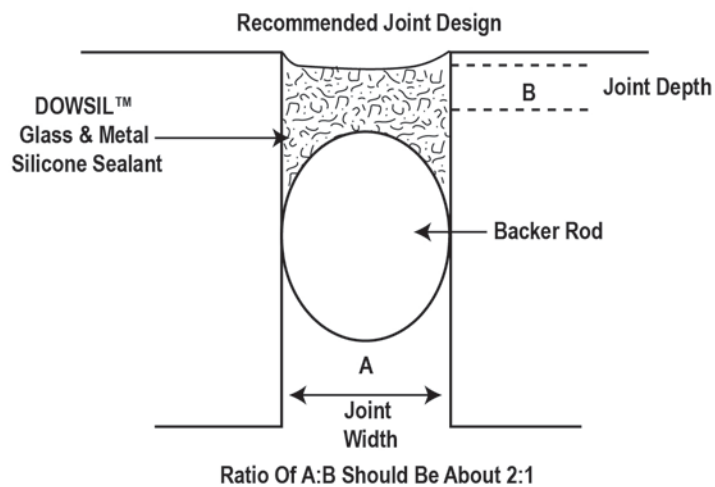

Figure 1.
4. Avoid 3 sided adhesion: Apply backer rod or bond breaker tape in the base of the joint to ensure the sealant is only bonded to the sides of the joint and is free to move to its full capacity under joint movement (refer Figure 1).